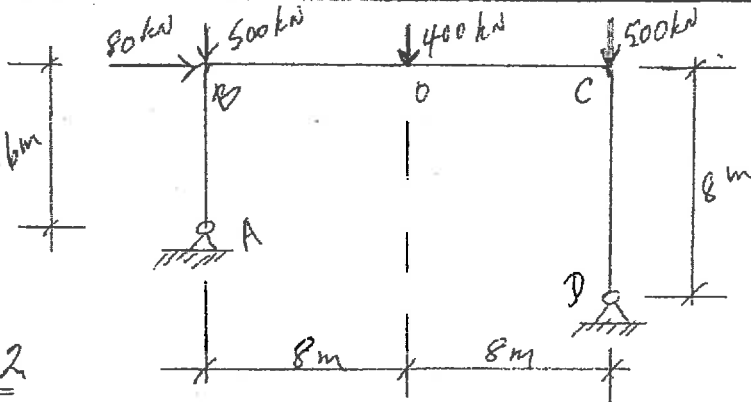

FIGURE 2
2. Figure 2 shows a steel rigid frame, to be designed with a constant plastic moment capacity, M_p . Using the Plastic Method of Design:
3. For the loaded steel rigid frame in Figure 2:
5. Figure 2 shows a reinforced concrete frame to be designed using the Limit States Design Method. The members of the frame can be assumed to have the same stiffness. Determine a suitable rectangular cross-section for member BC, showing the amount and layout of the reinforcing steel for both flexure and shear.
[Assume the frame in Figure 2 is braced at joints A, B, C and D.]